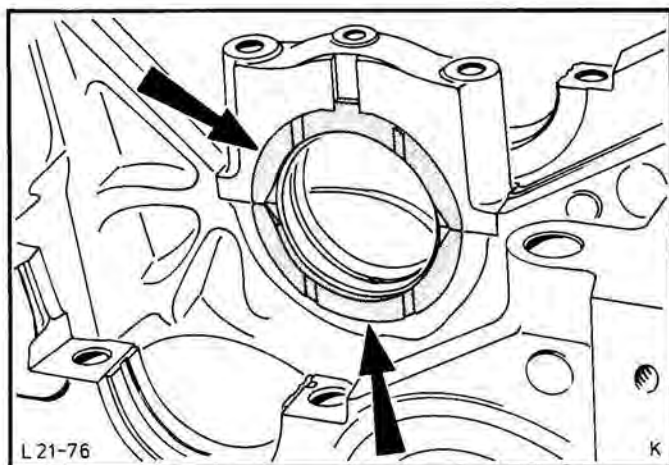

Fig.51. Thrust washer halves.
35. Fit main bearing caps complete with oiled bearing shells. Make sure that thrust washer halves are fitted in bearing providing axial guidance, Fig.51.